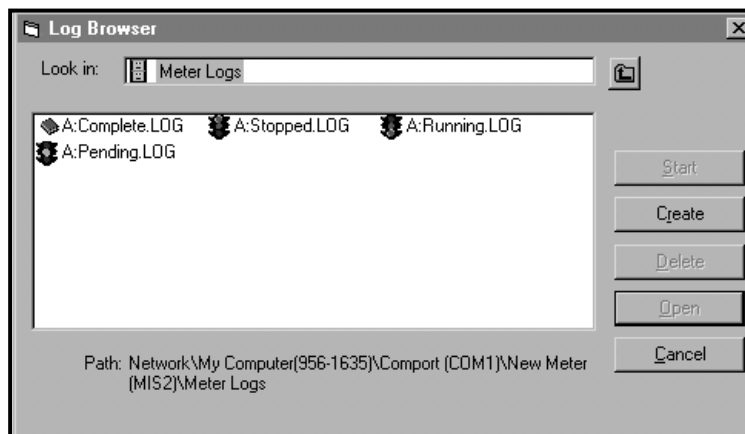

Figure 25: *Log Browser* Window
3. Double-click on *PC Logs* to access the stored PC logs, or on the *communication port name* and the *meter name* to access the stored meter logs. In either case, the *Log Browser* appears similar to Figure 25.